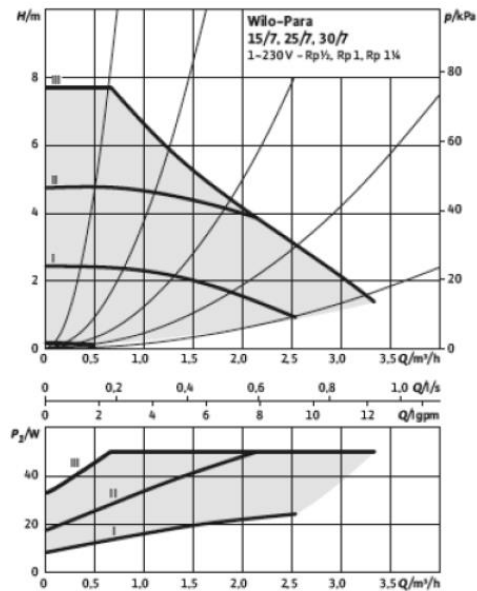

Figure 82 - Pump performance - Constant speeds I, II and III
- Select pump curve (I, II e III - Figure 82) within the control mode.